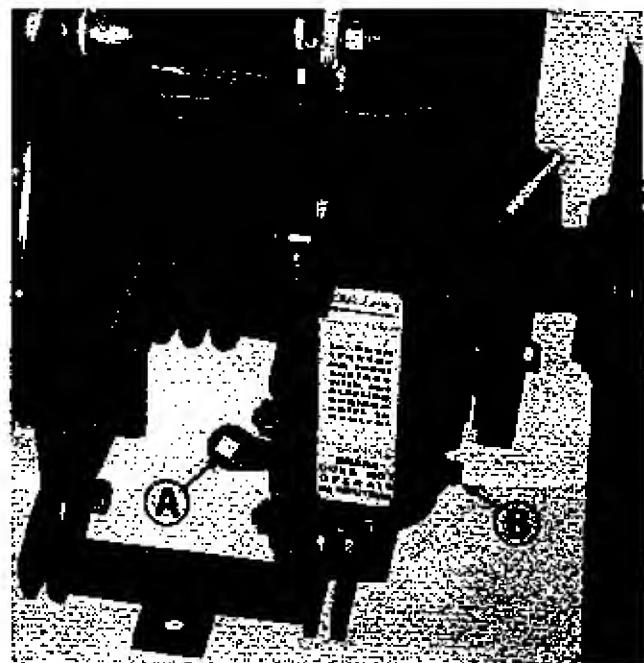

Figure 30. Rear of tractor showing axle drive housing.
1. See figure 30. Move the transmission shift lever to the NEUTRAL position, so the tractor will not creep forward or back when the engine is running.
See figure 30.